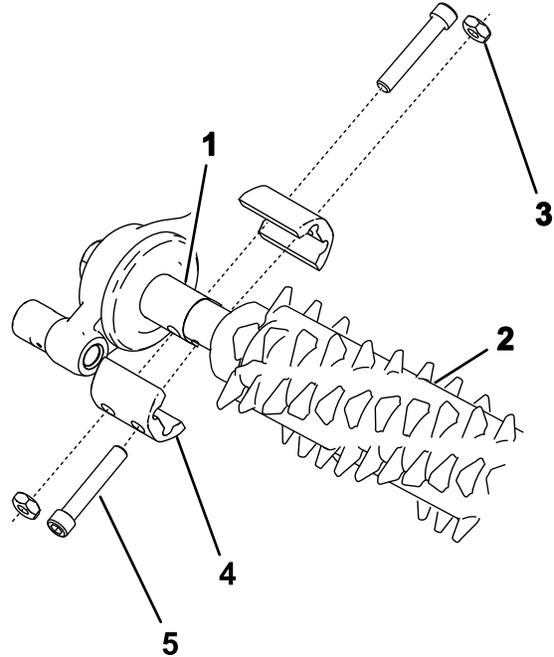

Figure 23
2. Line up the groomer with the groomer drive box and idler assembly (Figure 23).
3. Secure the groomer to the machine as shown in Figure 23 and snug the bolts.